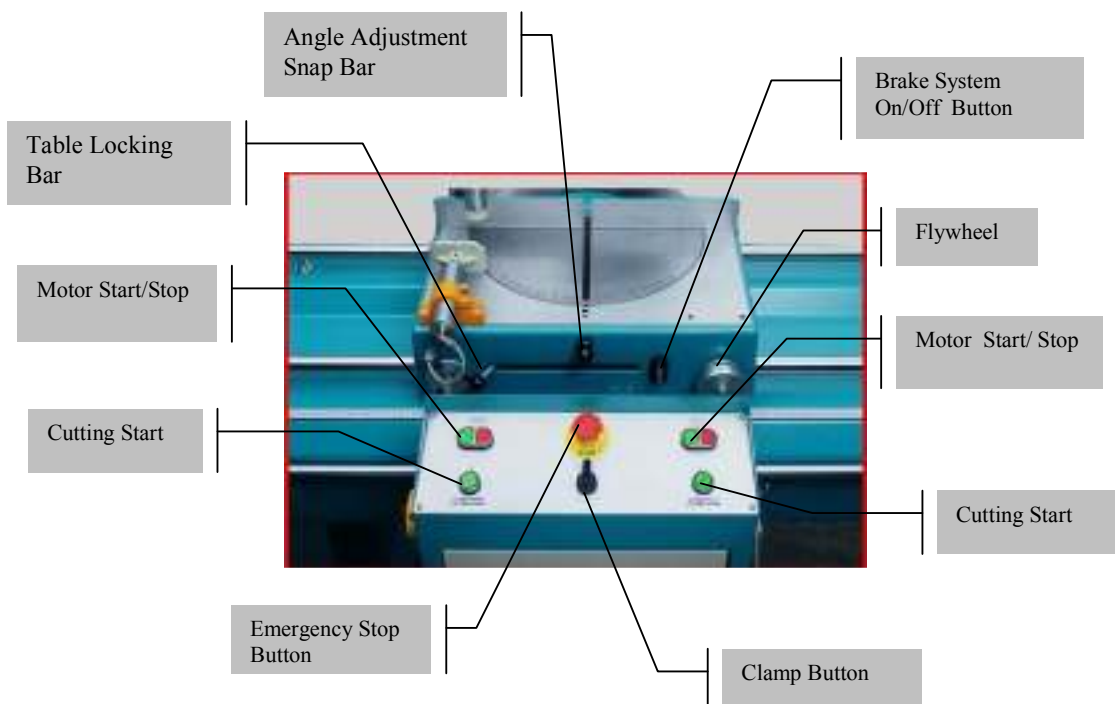

Figure-10
7.4.1.1 Move the profile or other material to be cut from the FIXED HEAD towards the MOVABLE HEAD. Fix the profile by pressing the clamp button. See Figure-10
7.4.1.2 Press the Motor Start 1 and 2 buttons on the control panel to operate the saw blades. See Figure-10